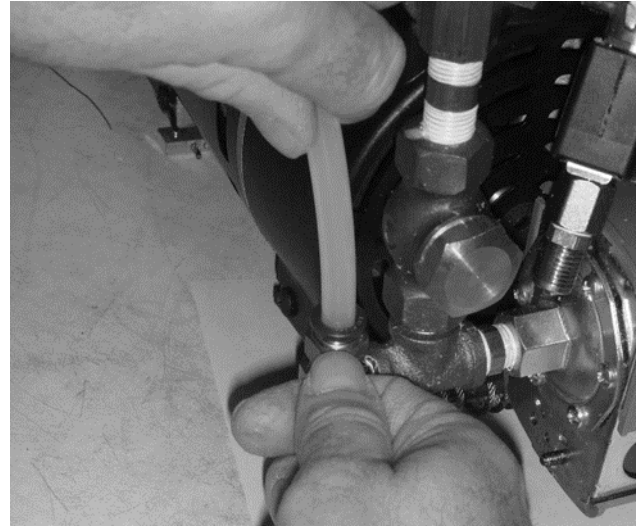

Fig. 1
- 4 Locate nylon, white semi-opaque tubing connected to the compressor. Disconnect the tubing from the compressor by pressing down on the ring with one thumb, push the tubing down into connector, and then lift tubing out of the connector. (Fig. 1)